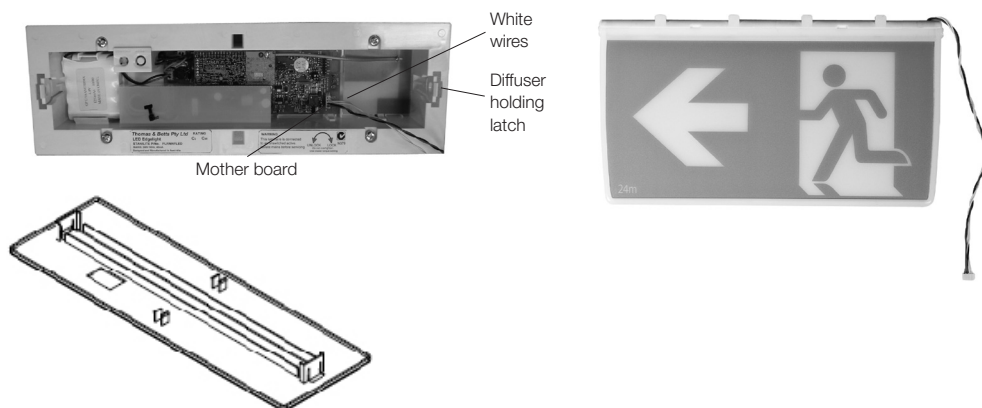

Figure 3: Connect wire loom plug to the mother board
4. Once the base is secured to the ceiling, hold the diffuser assembly in your hand and connect the diffuser wire loom polarised plug to the mother board (refer figure 3), the white wires on the plug should be towards the centre of the unit. Once the plug is connected, lay the wire loom carefully inside the base and place one side of the diffuser in the diffuser holding latch hole and push up the other side of the diffuser, the diffuser clicks and locks in place. Once the diffuser is locked in place, the face plate is easily fixed to the base. Hold the face plate in your hand; make sure the rectangular hole in the face plate for the LED and test switch lines up with LED and test switch in the base. Bring up the face plate close to the base, place the locking tab on one side in the position, the other end locking tab should line up on the correct position. Once both the locking tabs are in the correct position, press gently, till it clicks and locks. Press gently in the middle to lock middle 2 tabs, clicks sound indicates the tabs are locked in position.